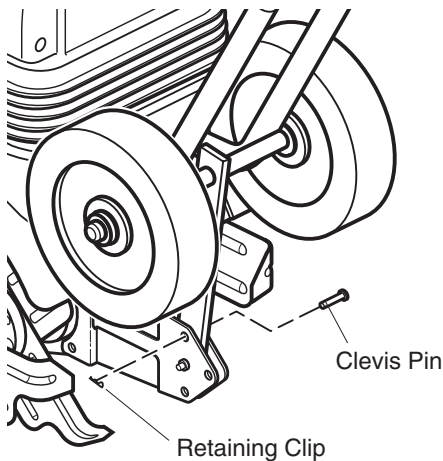

Figure 5 - Removing Retaining Clip and Clevis Pin
1. Remove retaining clip and clevis pin from wheel assembly mounting bracket (see Figure 5).